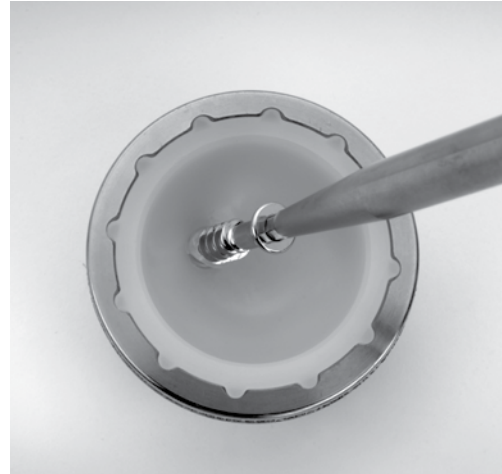

Fig.5
- Drive the screw into the pilot hole by hand until the Liner is lifted out of the Shell (Fig. 5).